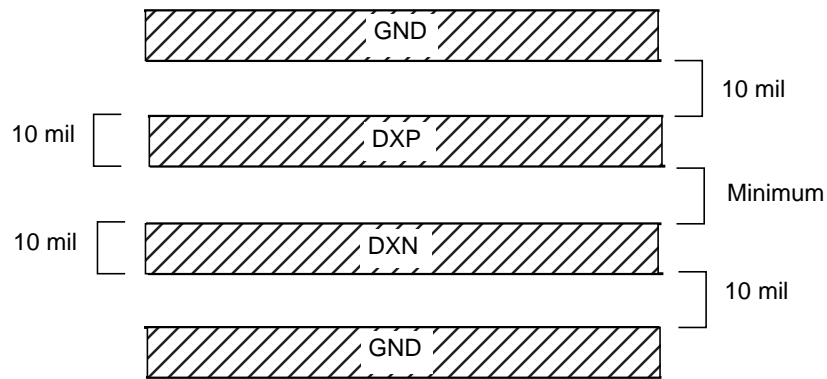

Figure 37. DXP/DXN PC Traces
4. Connect guard traces to GND on either side of the DXP DXN traces (Figure 37). With guard traces in place, routing near high-voltage traces is not a problem.
7. Use wide traces. Narrow ones are more inductive and tend to pick up radiated noise. The 10 mil widths and spacings recommended in Figure 37 are not absolutely necessary (as they offer only a minor improvement in leakage and noise), but try to use them where practical.